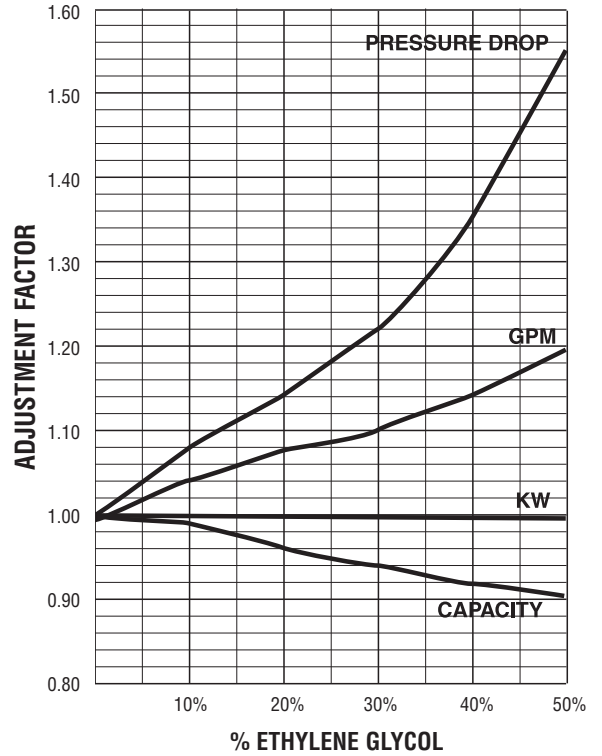

Figure 3. Ethylene Glycol Adjustment Factors
Ethylene Glycol adjustment factors (**Figure 3**) should be used to adjust performance depending on the percent of glycol used in the evaporator circuit. The factors in Table 3 are based on a 10°F change in fluid temperature through the evaporators.
3. To convert performance for water to performance with Ethylene Glycol read adjustment factors from **Figure 3** at 30% Glycol.